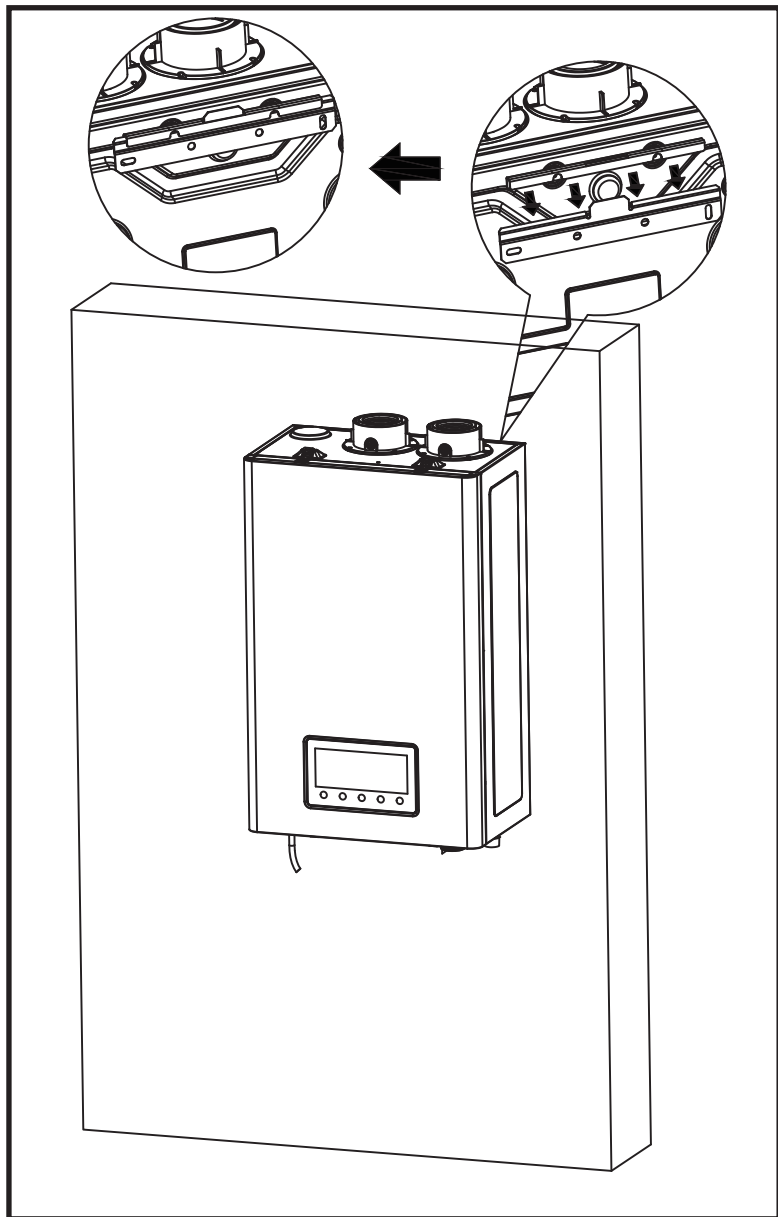

Fig. 6.4
3. Align the grooves on the back of the water heater with the convex on the upper bracket. Then, hang the unit on the bracket. **(See Fig. 6.4)**